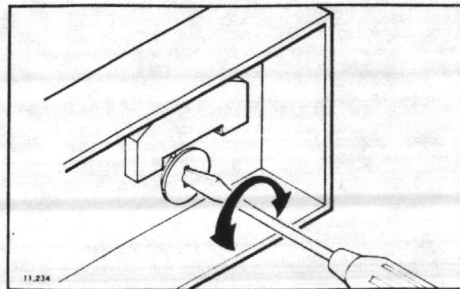

Fig. 13—Thermometer calibration.
5. If the readings are different, insert a small screwdriver in the thermometer slot (Fig. 13) and turn it until the thermometers have the same reading.